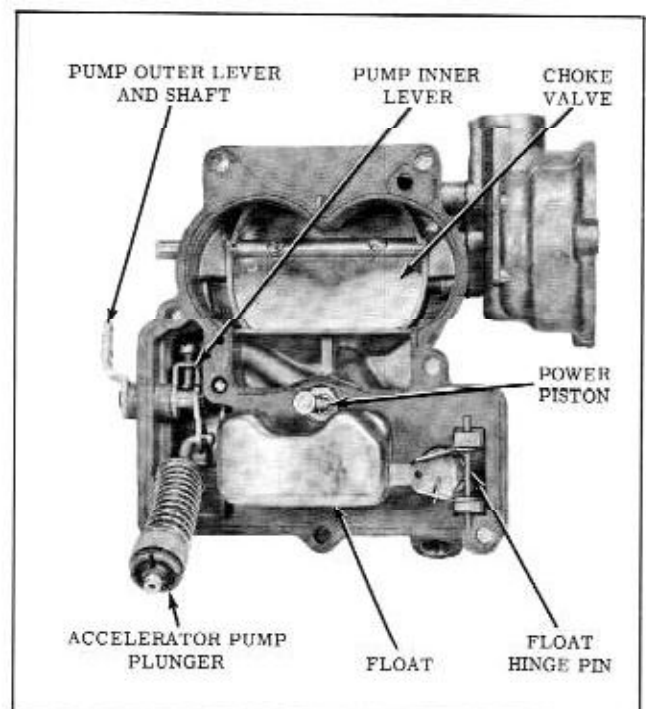

Fig. 8-72 Air Horn Assembly
8. Invert the air horn and place on a flat surface, then remove the float hinge pin, float and needle assembly. Float needle may be removed from float. (Fig. 8-72)
5. Install the outer pump lever and inner pump arm to air horn and tighten set screw securely. (Fig. 8-72)
6. Attach pump plunger assembly to inner pump arm with pump shaft pointing inward, and install horseshoe retainer. (Fig. 8-72)